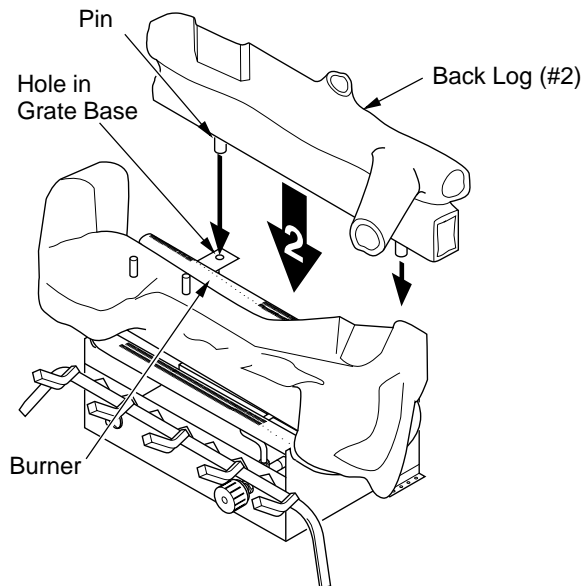

Figure 24 - Installing Back Log (#2)
2. Locate pins on the bottom of back log (#2). Slide these pins into the holes in the grate base behind the burner (see Figure 24).